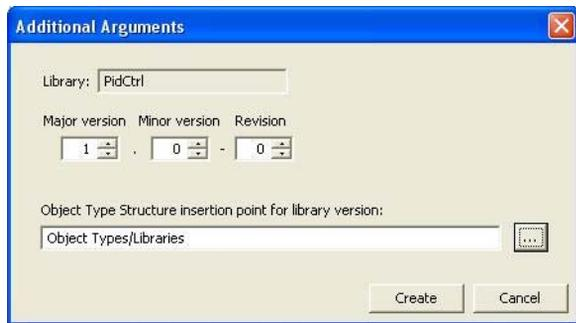

Figure 402. Additional Arguments Dialog Box
3. In the Additional Arguments dialog box, see Figure 402, you select version number for the first version of the library. You also select the Object Type Structure Insertion Point, either by using the browse button or directly type the path in the text field.